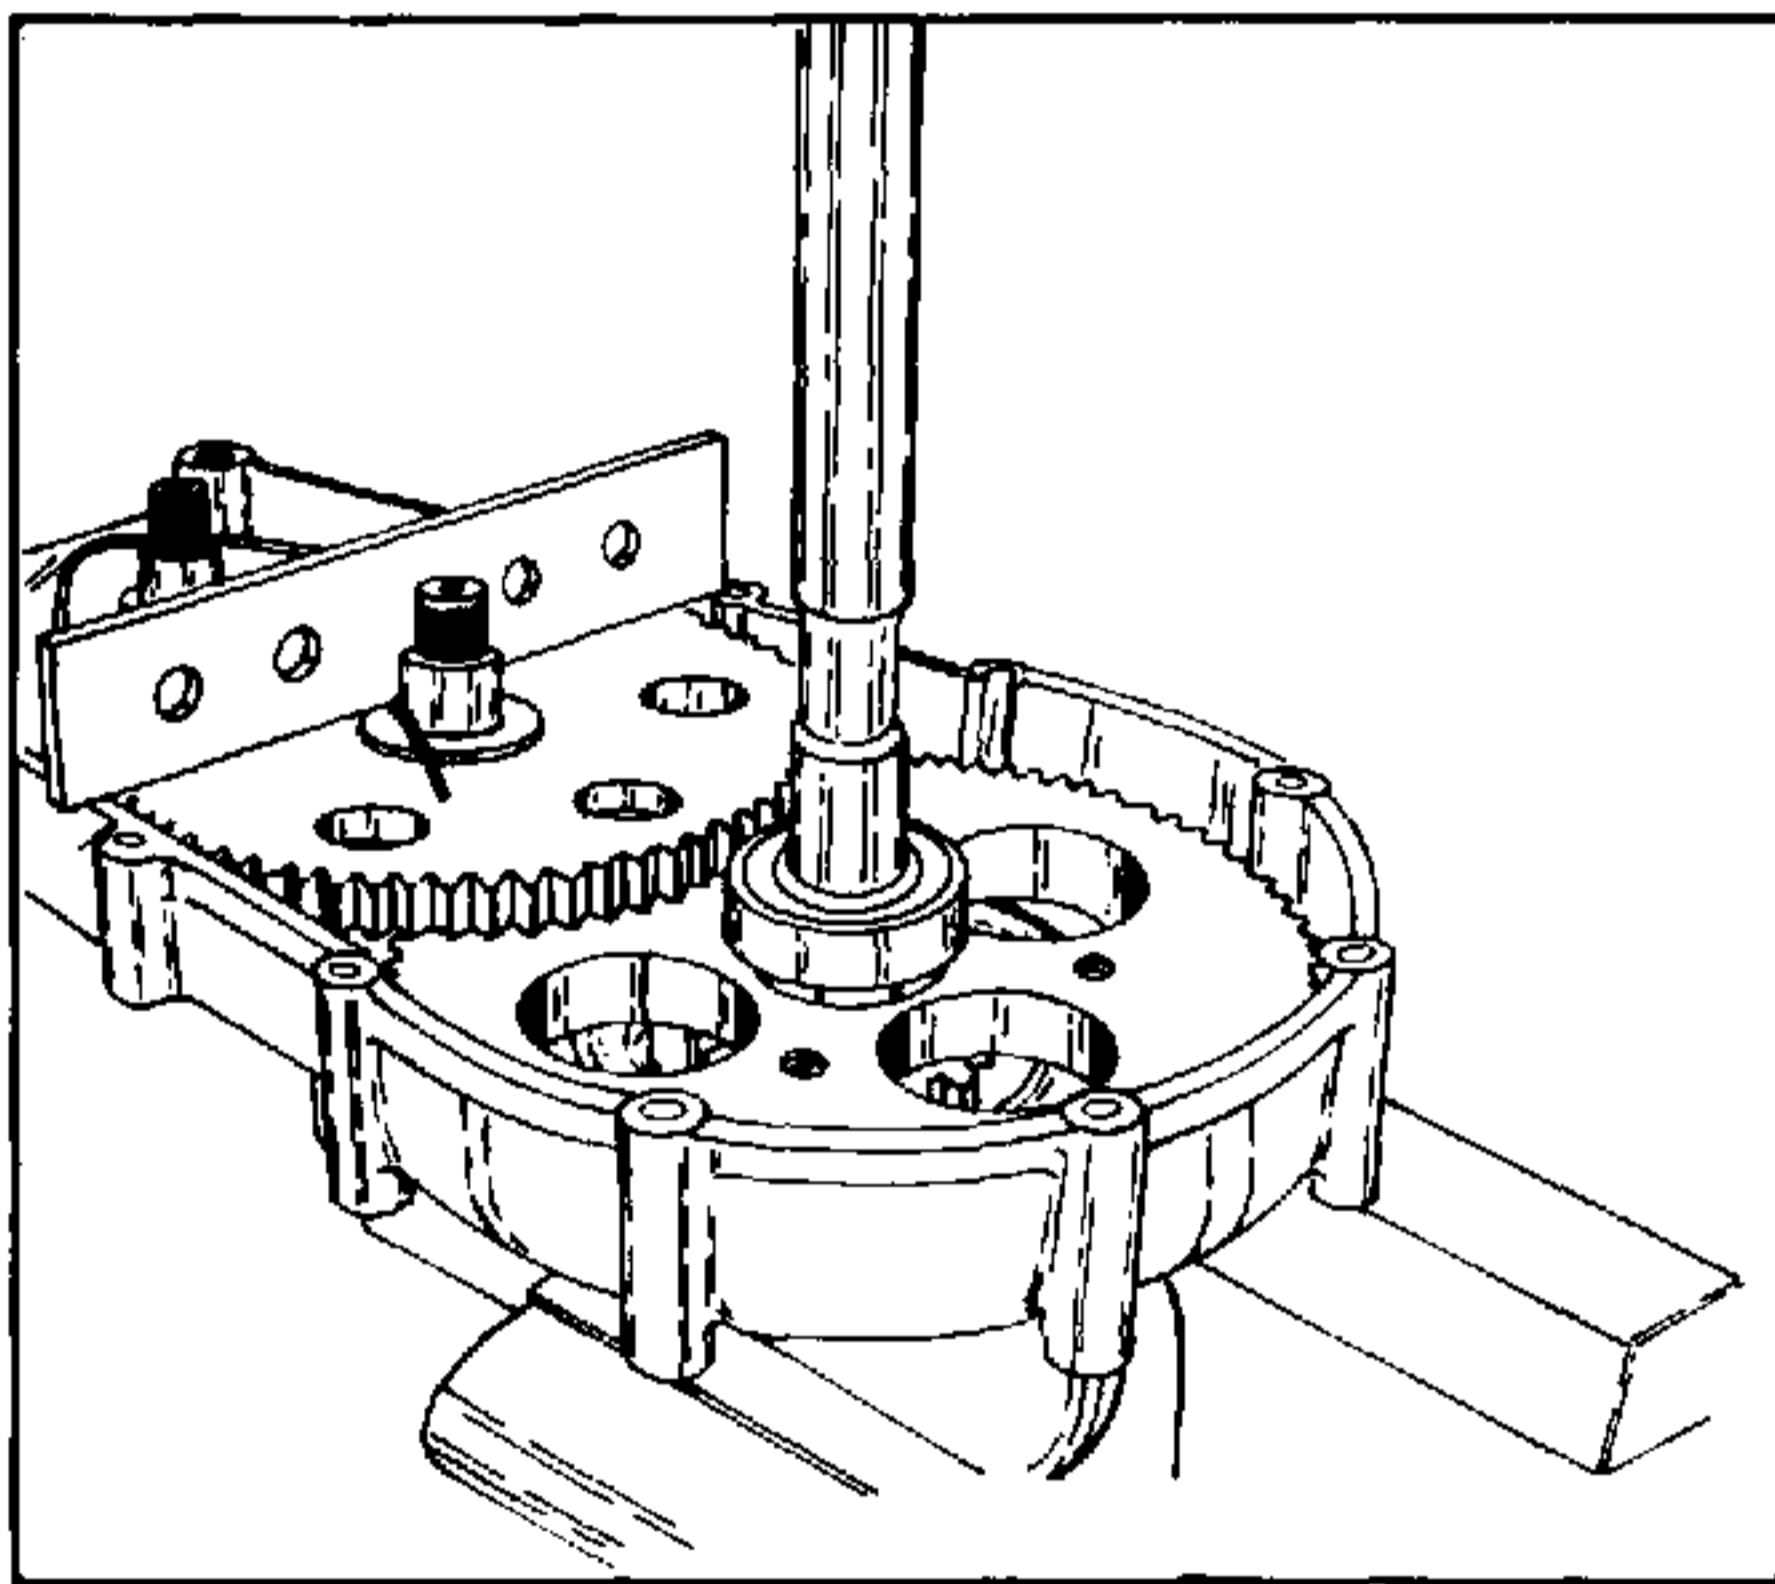

FIGURE 16.
8.21 Use a parallel bar across housing. Figure 16.
8.22 With a feeler gauge, pingages or stack of washers, measure the distance between the parallel bar and the reduction gear face. Figure 16.